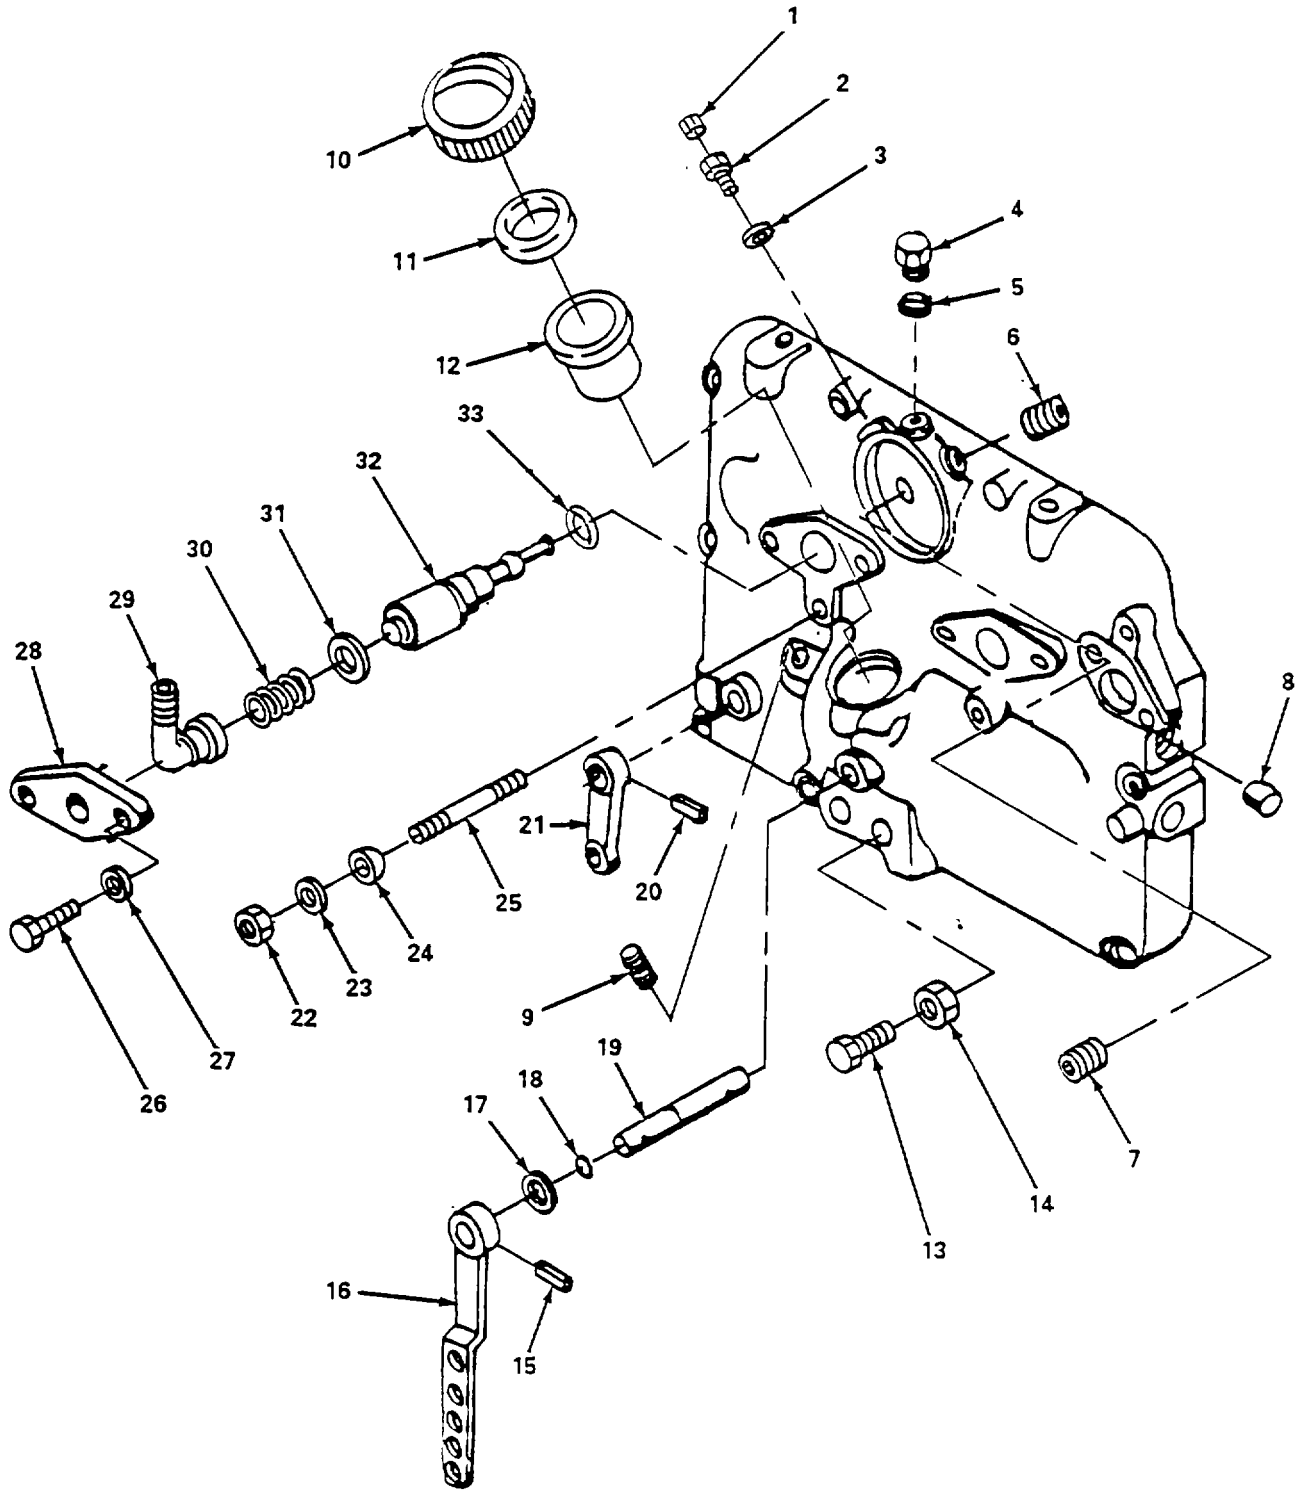

Figure 5-46. Injection Pump, Repair (Sheet I of 3).
- (15) Install fingertight two short bolts (11) and lockwashers (12).
- (16) Install fingertight five bolts (9) and lockwashers (10).
- (17) Install fingertight allen head screw (7) and lockwashers (8).
- (18) Install fingertight two nuts (5) and lockwashers (6).
- (19) Tighten uniformly in diagonal sequence nuts, bolts, and allen head screw securing injector pump (13) to engine (15).
- (20) Install breather line (4) and secure with clamp (3), lockwasher (2), and nut (1).
- (21) Install injector lines (para. 4-34).
- (22) Install fuel filter (para. 4-33).
c. Repair. (figure 5-46)
- (1) Remove injector pump (para. b. above).
- (2) Remove sealing ring (1), throttle screw (2) and sealing ring (3).
- (3) Remove screw plug (4), sealing ring (5), and screw plug (6).
- (4) Remove screw-in nipple (7), plug (8) and clamping bushing (9).